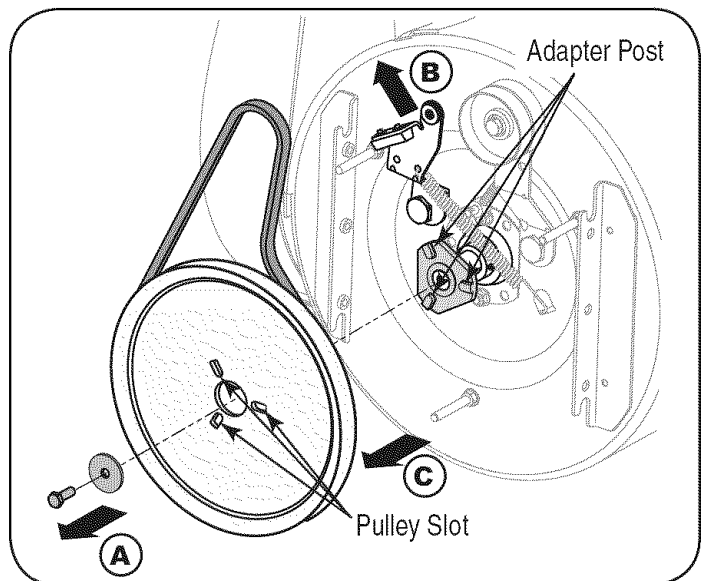

Figure 28
6. Block the impeller with a piece of wood to prevent it from spinning and use a 1/2" wrench to remove the hex screw and flat washer from the center of the pulley on the auger housing. See Figure 28.
7. Lift the brake bracket assembly out of the pulley groove and slide the pulley assembly off the posts of the auger pulley adapter to remove the old belt. Refer to Figure 28.
9. Turn the pulley as necessary to align its three slots approximately with the posts of the pulley adapter, then move the brake bracket assembly away from the input shaft. While aligning the pulley slots and adapter posts, push the auger pulley fully onto the adapter. Refer to Figure 28.
**NOTE:** If the pulley adapter was removed with the pulley, align the splines of the pulley adapter and auger input shaft, and push the pulley and adapter onto the input shaft. Refer to Figure 28.